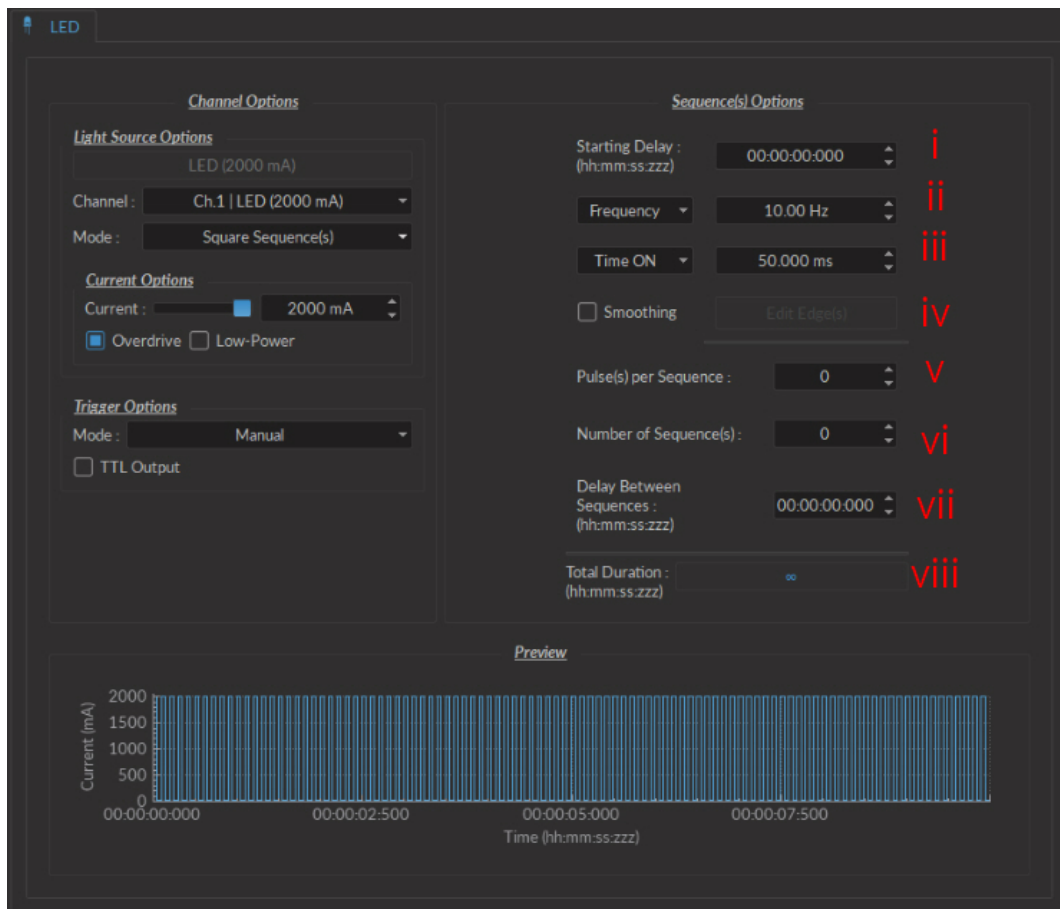

Figure 3.6: Light Source Channel Configuration Window, square sequence options
- The **Starting Delay** (Fig. 3.6) sets the delay (in hh:mm:ss:zzz format) before the first pulse.
- The **Frequency/Period** (Fig. 3.6) sets the frequency (in Hz) or period (in ms) for the pulse sequence. For example, a signal at 10 Hz (frequency) will output one pulse every 100 ms (period), whereas a pulse sequence at 0.5 Hz (frequency) will output one pulse every 2000 ms (period).
- The **Time ON/Duty Cycle** (Fig. 3.6) sets the time (in ms) or the duty cycle (in %) for each pulse. The **Time ON** must be lower than $(1/\text{frequency}) + 0.005$ ms, while the **Duty cycle** must be below 100 %. These squares will appear red should an impossible **Frequency/time ON** be selected. Should the **Smoothing** option be selected, this feature becomes inaccessible.
- v. The **Pulses per sequence** (Fig. 3.6) sets the number of pulses per sequence. If it is set to 0, the pulse will be repeated indefinitely.
- vi. The **Number of sequences** (Fig. 3.6) sets the number of times that the sequence will be repeated. If it is set to 0, the sequence will be repeated indefinitely.
- vii. The **Delay between sequences** (Fig. 3.6) sets the delay (in hh:mm:ss:zzz format) between each sequence if the **Number of Sequences** is greater than 1.
- viii. The **Total Duration** (Fig. 3.6) displays the total time of the experiment. The different values can be *Inf* for infinite, a valid time value or *Err* if the **Time ON** value is greater than 1/frequency.